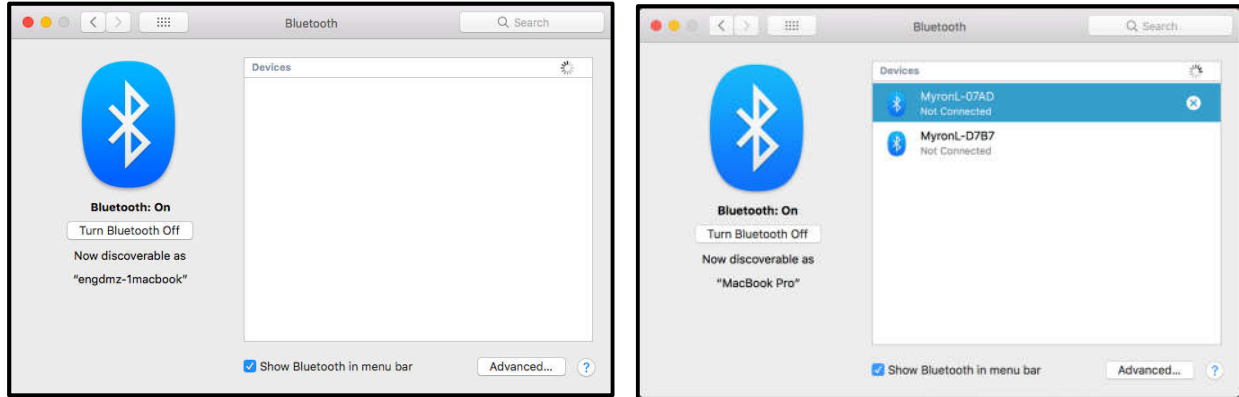

Figure 16
- If there is no device paired to the user's computer, the Bluetooth Preference Window will look like the first image in (Figure 16).